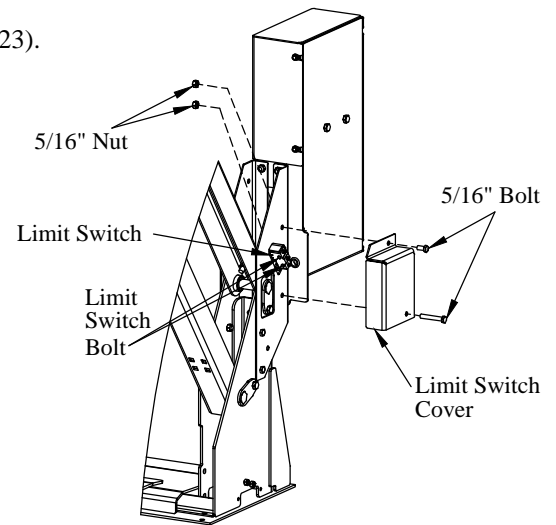

Figure 23: Limit Switch.
5. **Remove** the limit switch cover by removing two (2) 5/16" bolts and nuts (Figure 23).
6. **Loosen** the bolts holding the limit switch (Figure 23).
9. **Install** the limit switch cover with 5/16" bolts and nuts. Be careful not to over tighten the 5/16" bolts (Figure 23).